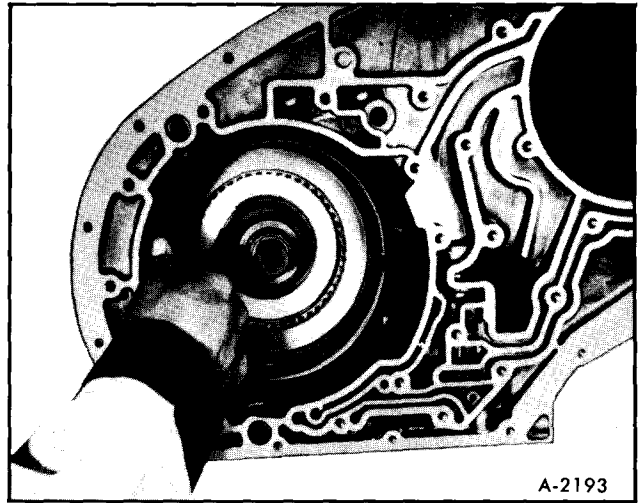

Figure 83—Front Band Installation
2. Install front band with band anchor hole over band anchor pin, and apply lug facing servo hole, Figure 83.